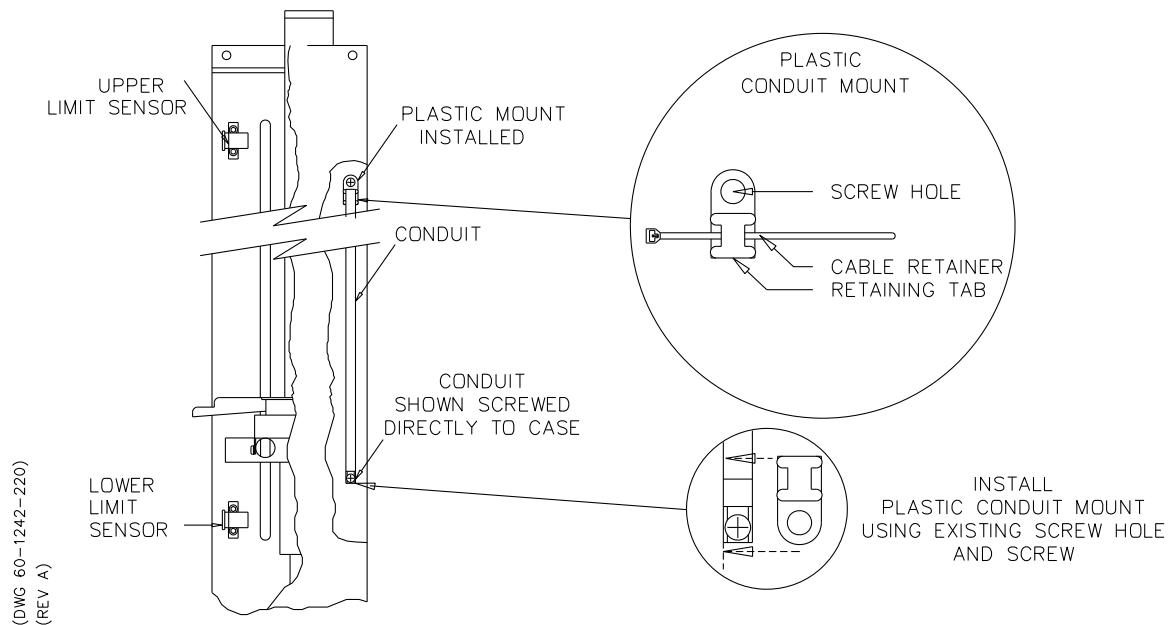

Figure 9-21 Installing the plastic mounts
- b. Then use the same screws and holes to install the mounts. Be sure the tab portion of the mount is facing away from the sensors, as shown in Figure 9-21, (the screw aperture is closest to the sensors).